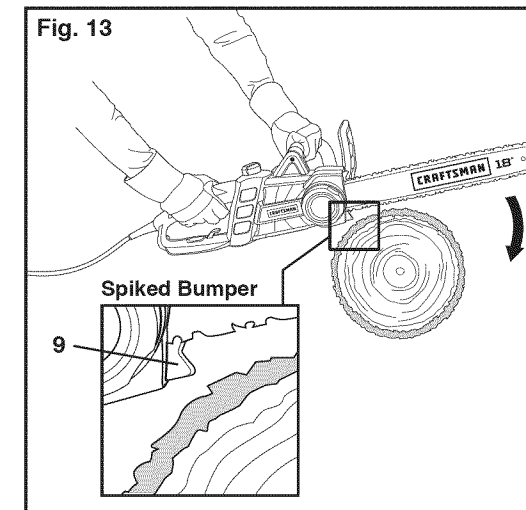

Fig. 13
Use the spiked bumper (9) as a leverage point while cutting. (See Fig. 13)
Reset the gripping teeth at a low point when sawing thicker logs by pulling the chain saw slightly backwards until the gripping teeth release, and reposition at lower level to continue sawing. (See Fig. 13)